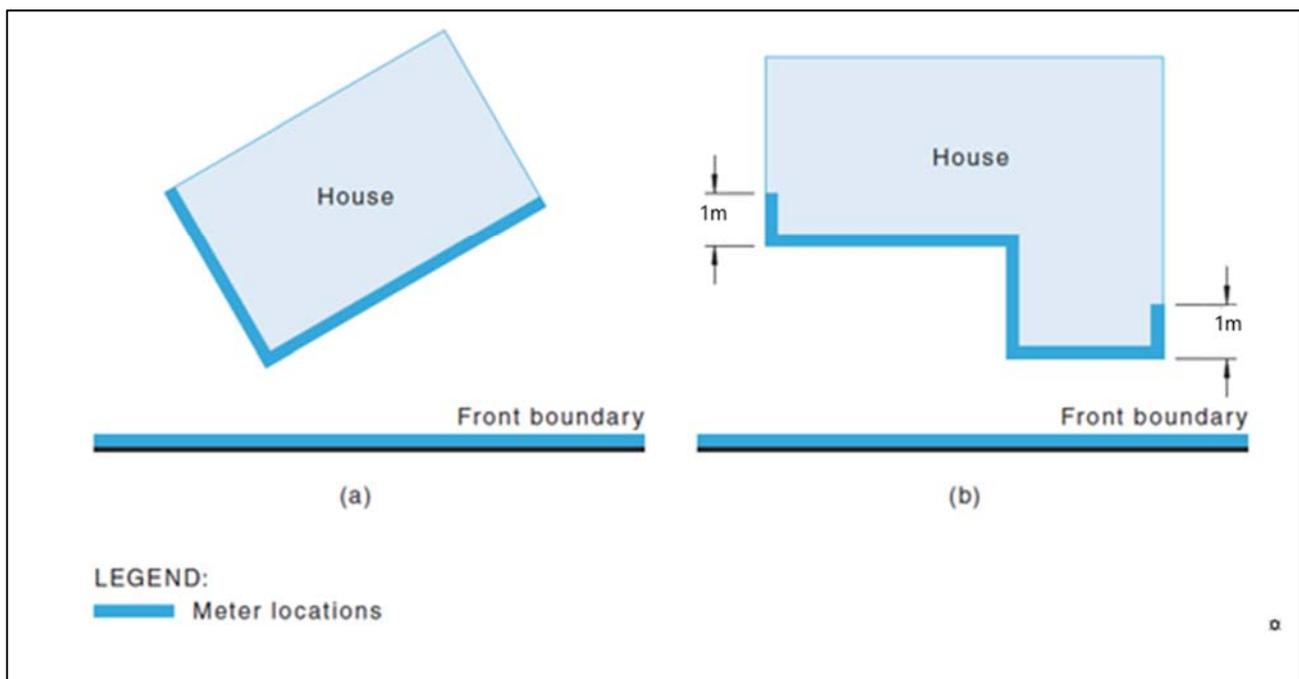

Figure 1 – Preferred meter location
The meter shall be located such that it is readily accessible and in a safe location that permits ease of reading, safe venting, maintenance and replacement. The nominated location should also ensure that the meter is external to any building. The meter shall be located as shown in Figure 1. Meter connections are subject to an Economic Feasibility Test based on agreement between all parties involved; negotiation should take place at the first gas supply request.
For single occupancy premises, individual meter placement shall comply with Figure 1 below.
For dual or multiple occupancy premises all individual meters should be located at the front boundary of a property, in an agreed and compliant location, which in some cases could be within common property. (refer Figure 1 of this standard).
- k) 1000mm from a driveway or vehicle access at the time the meter was first installed. Refer figure 1. Note: if changes to vehicle access are made post the installation of the meter an assessment on vehicle impact cannot be made.